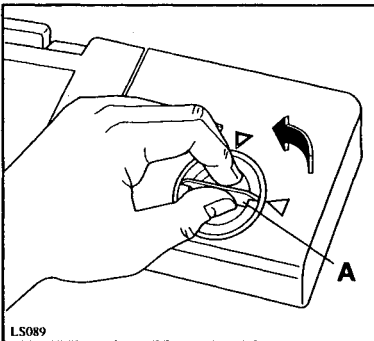

Fig. 4
Open the container by turning the lid (A) anticlockwise (Fig. 4). Pour the rinse-aid into the filler opening until the indicator (B) on the side of the cover turns completely dark (i.e. until the container is full)